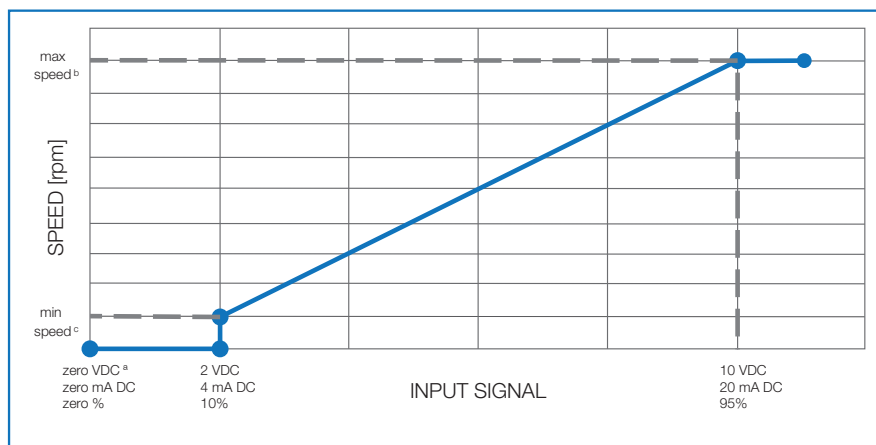

Figure 8 - Control input reference
WEG EC motors operation speed can be adjusted by DC voltage signal, DC current signal or frequency signal. The operating speed of the motor will be according to figure 8.
- Connect the control signals (item 5.2) to the external speed controller according to Figure 8;
- Rotate CTR in clockwise direction (CW) to increase the running speed;